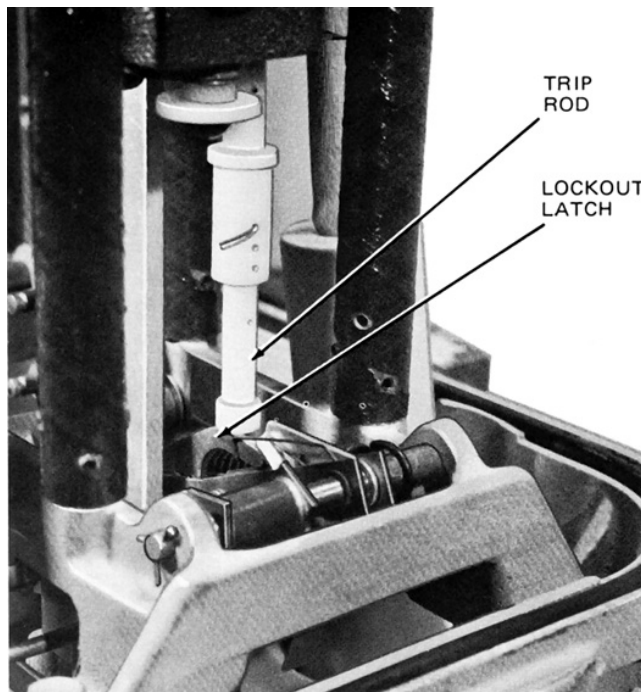

Figure 20. Trip rod should touch lockout latch
- B. Unscrew shell far enough to expose the steel pin (Figure 20).